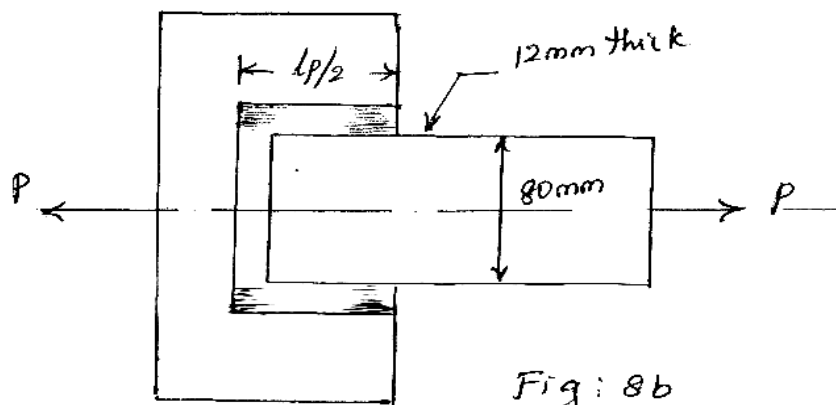

Fig: 8b
- b. A 80 mm wide of 12 mm thick plate subjected to axial tensile load is welded to a vertical support by a single transverse fillet weld and a double parallel fillet weld shown in Fig. 8b. The maximum tensile and shear stress in the weld are 100 MPa and 70 MPa respectively. Find the length of each parallel weld, if the joint is subjected to,